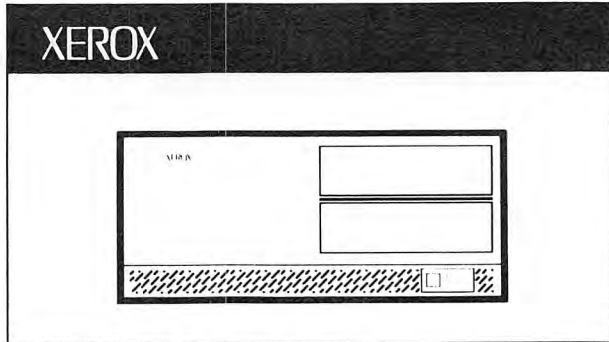

Figure 1-1. Processor's shipping carton.
1. Open the carton that looks like the illustration shown in Fig. 1-1 first.